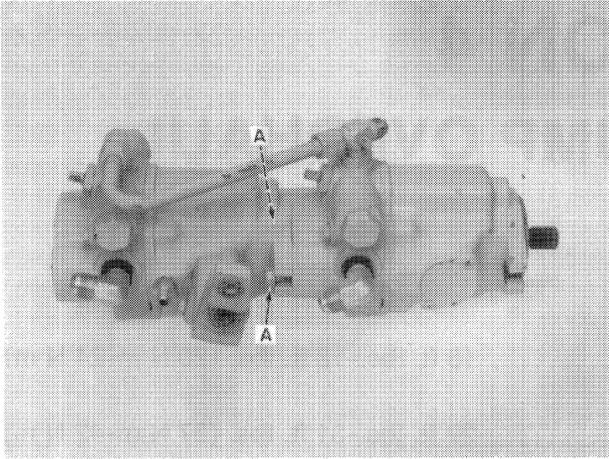

FIGURE 4-2
4. Remove the two bolts, A, Figure 4-2, and tap the housings with a plastic or rubber mallet to separate the two pumps. The pumps are coupled with a coupler which will remain on one of the splined shafts.